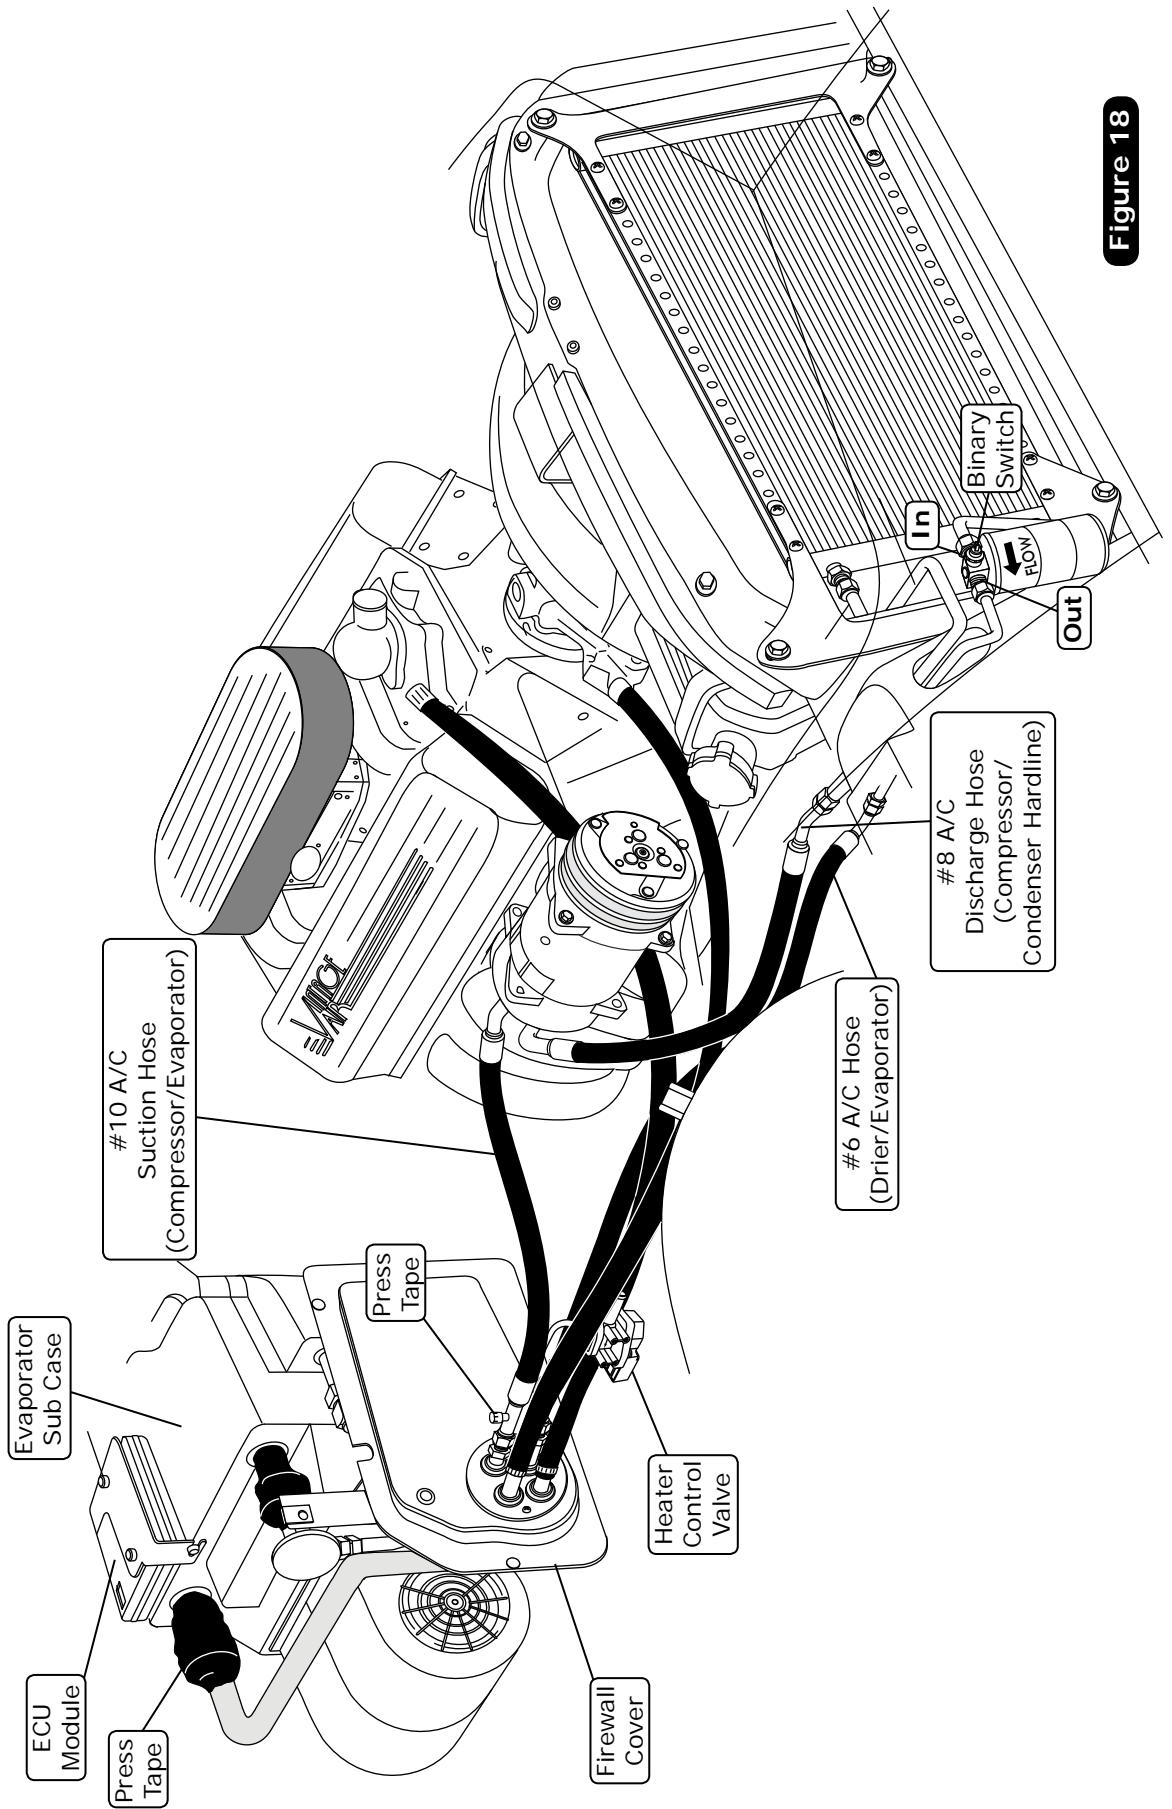

Figure 18
1. Locate the #8 compressor A/C hose. Lubricate (2) #8 O-rings (See Figure 17, below) and connect the 135° female fitting to the #8 discharge port on the compressor. Then route the 45° female fitting to the #8 condenser hardline coming through the core support (See Figure 18, Page 20). Tighten each fitting connection as shown in Figure 17, below.
2. Locate the #10 compressor A/C hose. Lubricate (2) #10 O-rings (See Figure 17, below) and connect the 45° female fitting with 134a service port to the #10 suction port on the compressor. Then route the straight fitting to the #10 evaporator hardline coming through the firewall (See Figure 18, Page 20). Tighten each fitting connection as shown in Figure 17, below. **NOTE: Wrap the #10 fitting connections at the firewall with press tape (See Figure 18, Page 20).**
3. Locate the #6 A/C hose. Lubricate (2) #6 O-rings (See Figure 17, below) and connect the 90° fitting to the #6 hardline coming through the core support from the drier. Attach the straight fitting with 134a service port to the #6 evaporator hardline coming through the firewall (See Figure 18, Page 20). Tighten each fitting connection as shown in Figure 18, below. Use a #6 Adel clamp to secure the #6 A/C hose to the inner fender well as shown in Figure 18, Page 20. Secure the Adel clamp to the inner fender using a 10-32 x 1/2" machine screw and nut.